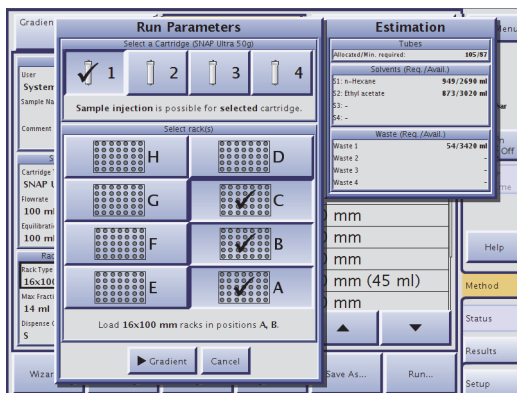

Figure 4-15. Run Parameters and Estimation Dialogs
6. To start or queue up* the purification, press ► **Equilibrate/Gradient** (see Figure 4-15). The **Status** tab is selected.